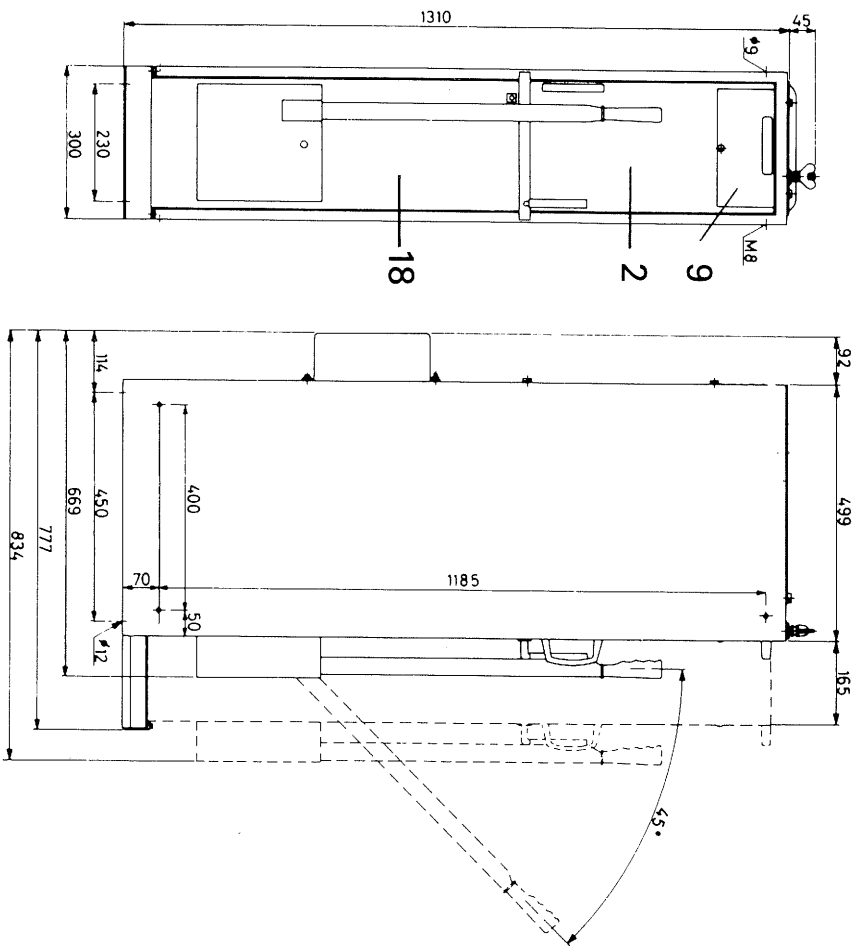

Fig. 2
2. DIMENSIONS, Fig 2 and TECHNICAL SPECIFICATIONS